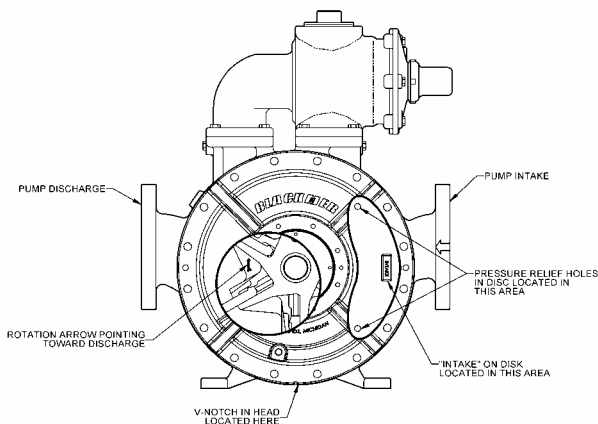

Figure 10
1. **LINER** – The liner has a close fit with the casing (12); take care to avoid finger injury during installation.
- a. Align and start the liner (41) and liner key (74) together into the pump casing. The word "INTAKE," which is cast into the liner, must be towards the intake side of the pump. NOTE: The intake port is marked with an inward facing arrow.
- a. Place a disc (71) on the head (20 or 20A) with the counter-bored screw holes facing up.
- b. Position the disc so that **when the head is mounted** with the drain hole and V-notch down, the word "INTAKE" on the disc will be towards the intake side of the pump. The two disc holes must be in the 2 and 4 o'clock positions if the inlet is on the right (see Figure 10).
- f. Install and tighten the head capscrews (21) uniformly, making sure the head O-ring (72) slides into place without damage.
4. **SLEEVE BEARINGS** – If the sleeve bearing (24) has been removed from the hub (20C), a new bearing must be installed prior to attaching the hub assembly to the head.
- b. Place the bearing (24) in the bearing bore on the inside face of the hub (20C) with the tapered end inward.
- a. Before attaching the hub assembly (20C) to the mounted head (20), grease the three head chamfers.
- a. Partially install the rotor and shaft (13) into the open side of the pump and through the bore of the installed head (20). Be careful not to damage the disc face with the shaft end. **NOTE: When installing the rotor and shaft, the rotation arrow on the rotor must point in the direction of pump rotation-towards the discharge side of the pump when the arrow is positioned directly below the shaft.** See Figure 10.